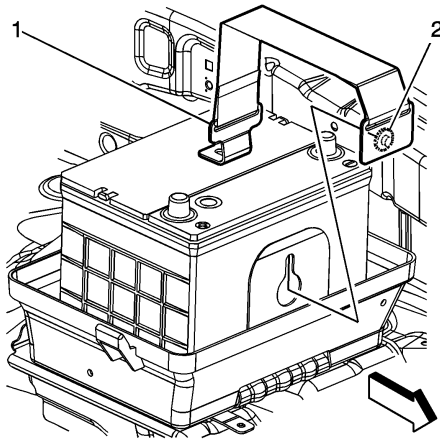

Fig. 6 Battery strap pin removal
13. Disengage battery strap pin (2) from battery tray bracket stopper, **Fig. 6**.
3. Engage battery strap pin (2) to battery tray bracket stopper, **Fig. 6**.